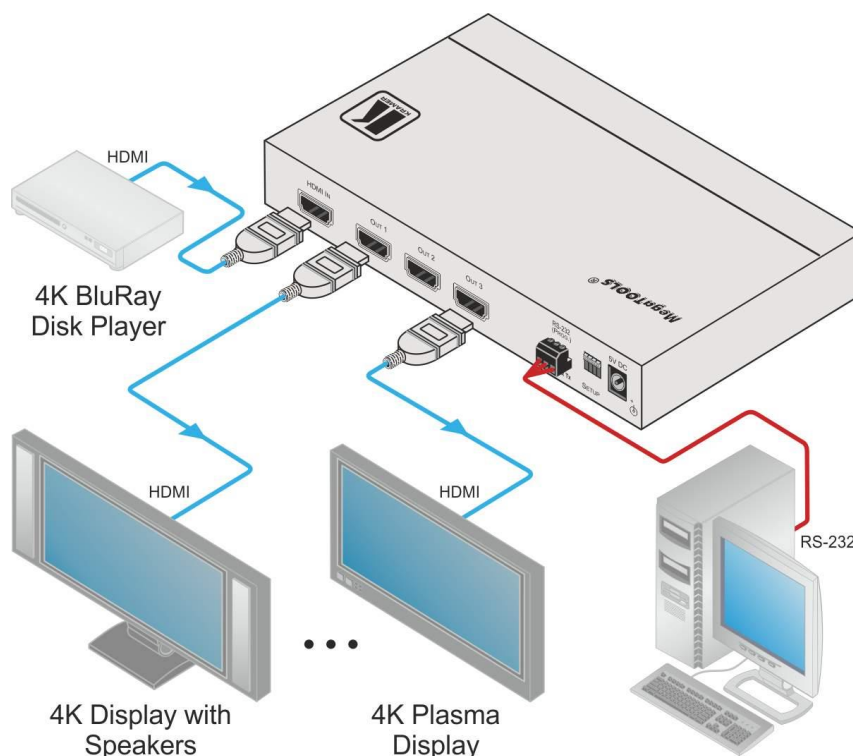

Figure 2: Connecting the VM-3H2 1:3 4K HDR HDMI DA
To connect the **VM-3H2**, as illustrated in the example in Figure 2, do the following:
- 3. Connect the 5V DC power adapter to the power socket unit and then connect the adapter to the mains electricity (**not shown in Figure 2**).